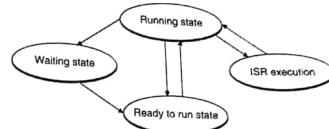

Fig. 13.3.1 : State transition diagram of a task state
- The task switching state diagram is shown in Fig. 13.3.1.